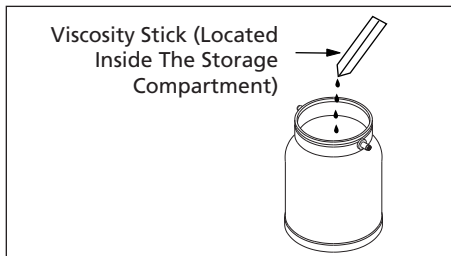

Figure 4 - Viscosity Stick
- Using the following procedure, check viscosity of spray material before locking gun onto the paint cup (Figure 4).